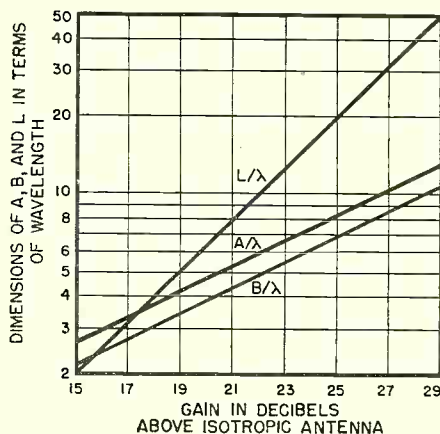

Fig. 10. Gain of electromagnetic horn.
lationship must exist between  $L$ ,  $A$ , and  $B$  of Fig. 1 for optimum transmission. Fig. 10 plots these three parameters versus the gain in decibels. An approximation for the gain of an electromagnetic horn, for the case where  $L > a^2/\lambda$ , is given by the following equation:
The effective area of the horn is a function primarily of its size. It is possible to calculate this effective area through the use of Eq. (3) and the graph given in Fig. 10. A figure of 0.5 (of  $A \times B$ ) is frequently used as a typical value. (Continued on page 30A)